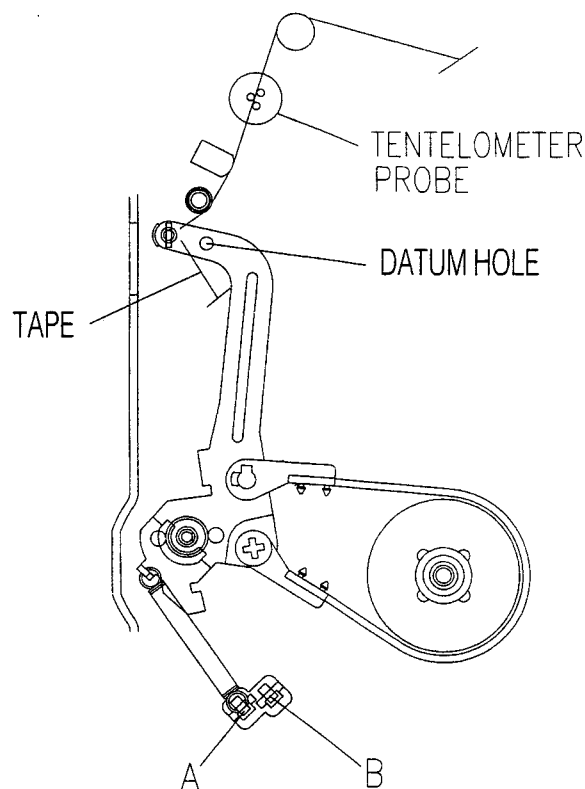

Fig.4-6 BACK TENSION MEASUREMENT
4-2. BACK TENSION MEASUREMENT (See Fig.4-6~4-7)
- Bring the TENTELOMETER into contact with the TAPE (Fig.4-6) and measure the BACK TENSION. The measuring result should be between 25 and 33 grams.